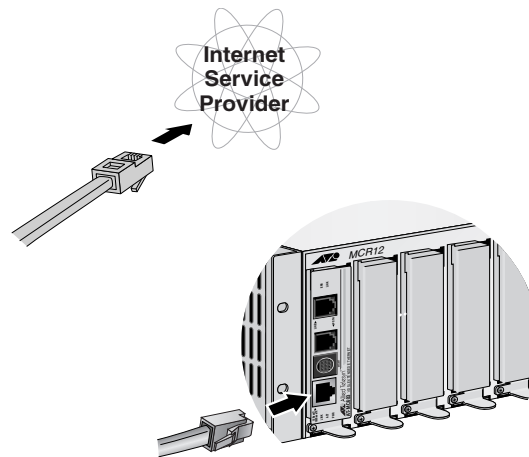

Figure 16. Ethernet to Internet Service Provider
1. Connect the Ethernet cable from the Ethernet port to the Service Provider box in your wiring closet, as shown in Figure 16.